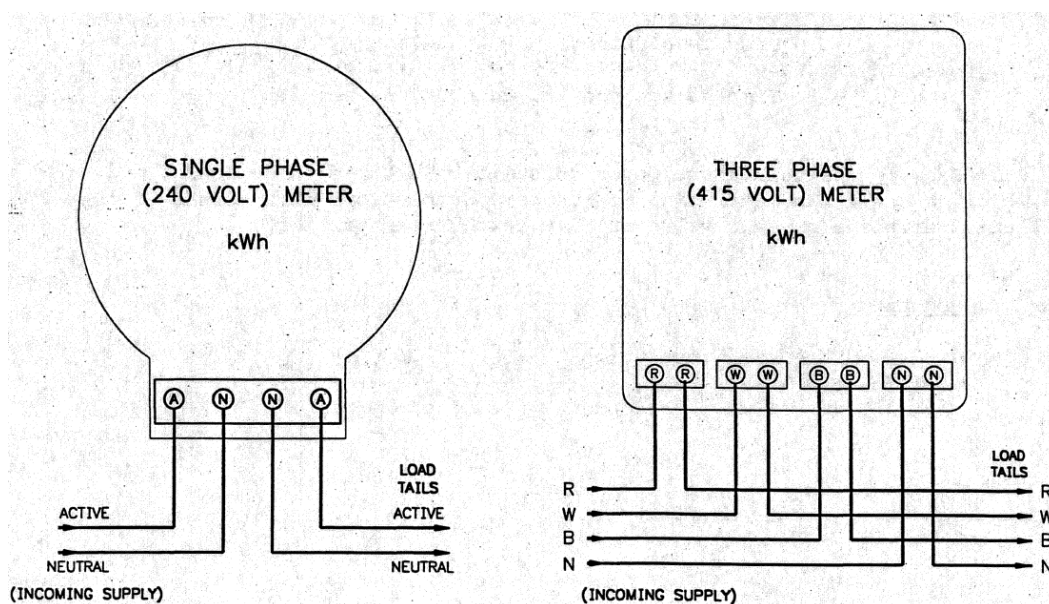

Figure 6 - Typical kWh meter connections
- 20 Energy (E) is power times time ($E = P \times t$). The basic unit of energy is the joule (J) which is 1 watt for 1 second. The joule is too small a unit to be convenient for specifying energy for supply authority purposes so they use a larger unit – the kilowatt-hour (kWh). 1 kilowatt-hour is the energy consumed by a 1 kW load over a period of 1 hour. One kilowatt-hour is also known as one 'Unit'.
- 21 Typical connections for supply authority kWh meters are shown in Figure 6